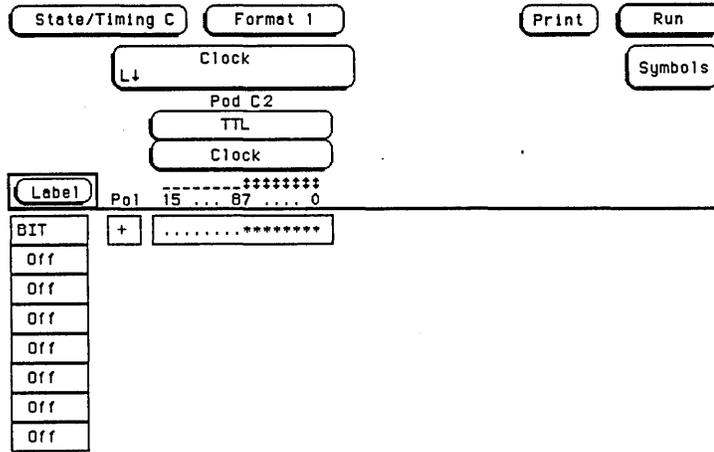

Figure 3-18. Format Screen
4. Assign appropriate clock, falling edge, and eight channels of the pod under test to a label in the Format screen as shown in figure 3-18. Refer to steps a and b if unfamiliar with the menus.